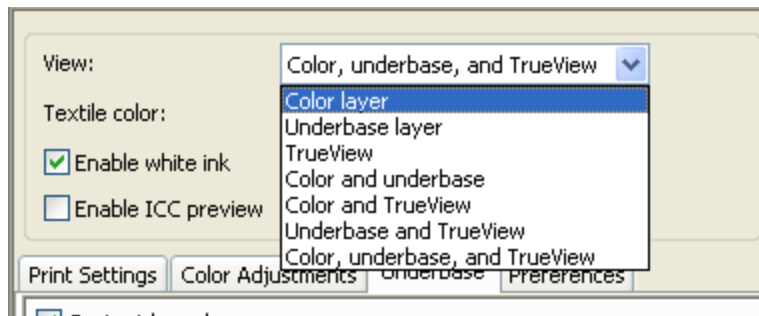
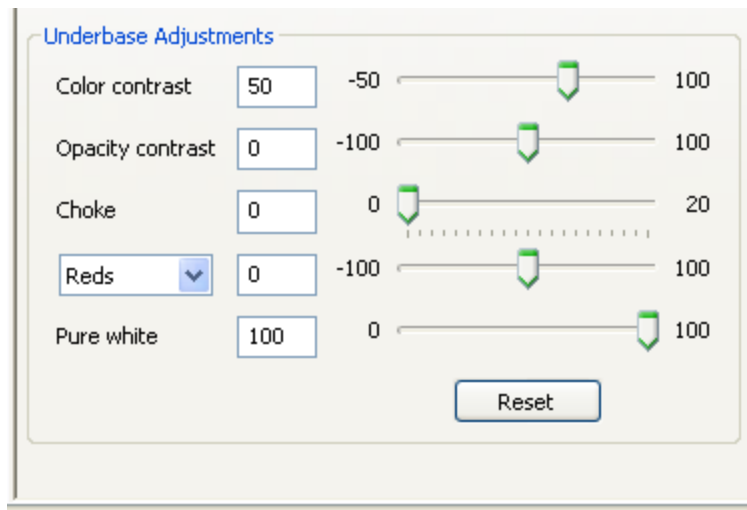

Figure 6.5d: White Ink Enabled View Options
Figure 6.5e: Underbase Adjustments
- Using the View selection you can monitor how your adjustments to the underbase will affect your printing results by selecting the Underbase and TrueView option (Figure 6.5d). The Underbase and TrueView images should now be visible in the preview screen. There are five ways to adjust your white underbase, Color Contrast, Opacity Contrast, Choke, Individual Color Adjustments and Pure White (Figure 6.5e). Note, some of the are disabled when Content Based is not checked.